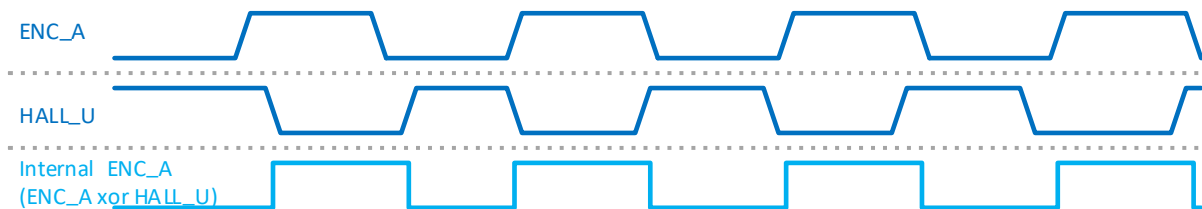

Figure 26. Digital Differential ABN Encoder Input, Example for ENC_A vs. HALL_U Pins
- Digital differential ABN encoder input, represented in Figure 26.